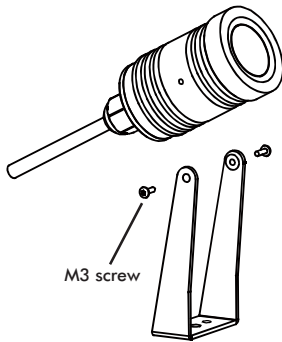

Fig 1.1
1.1 Separate the bracket from housing by unscrew the M3 screws by allen key. (See Fig 1.1)